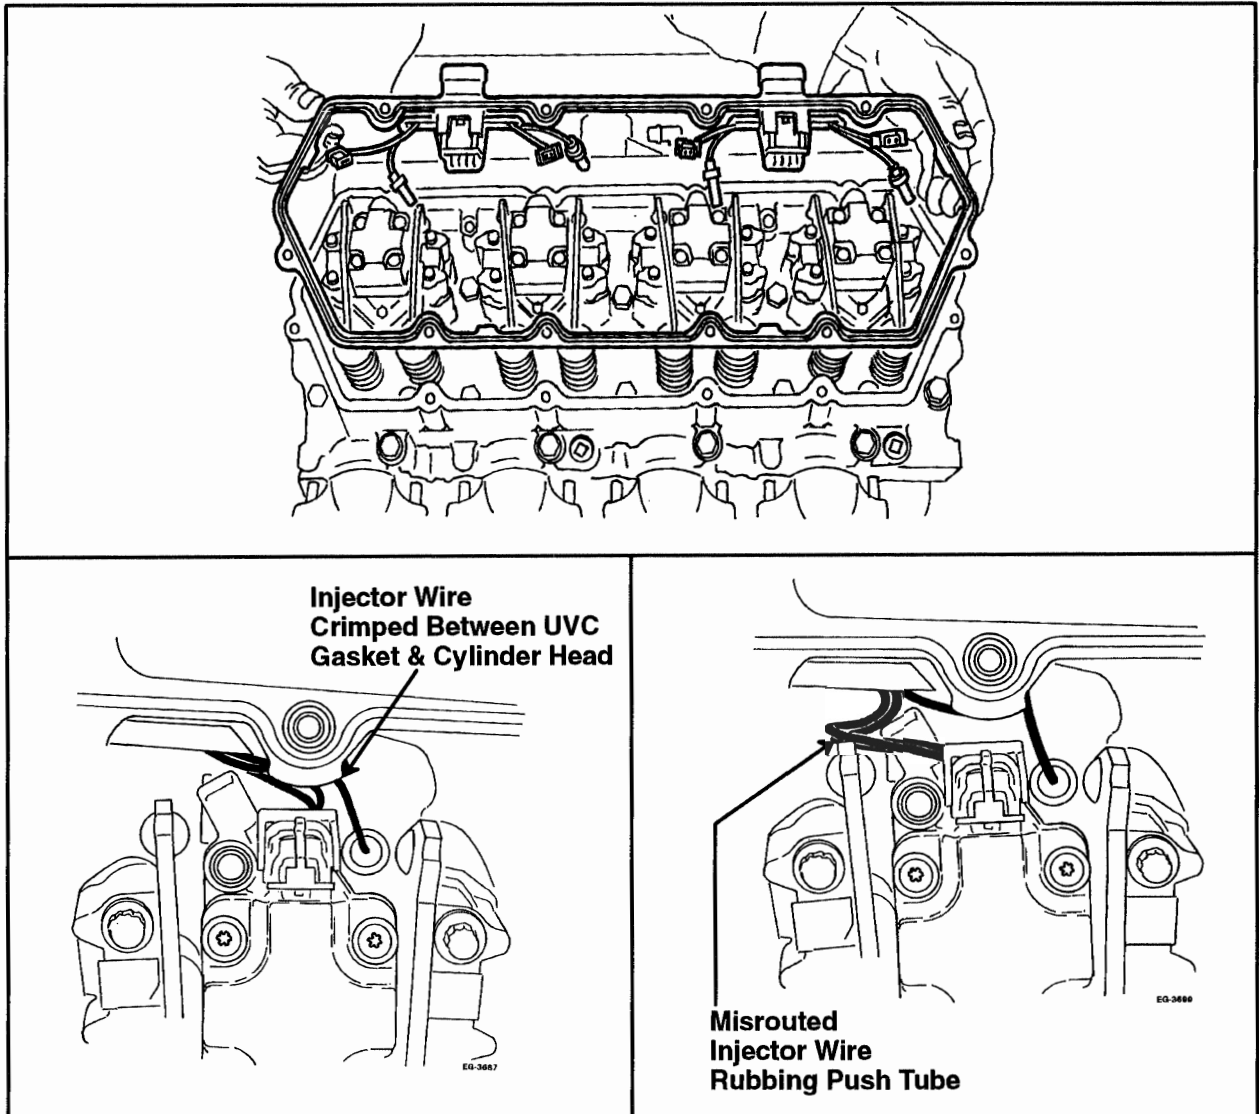

Figure 4.19. – Under Valve Cover Harness Inspection
- Remove the valve covers and inspect the under valve cover connectors (**Figure 4.19.**) for possible pinching under the valve cover gasket or rub through against the push tubes.